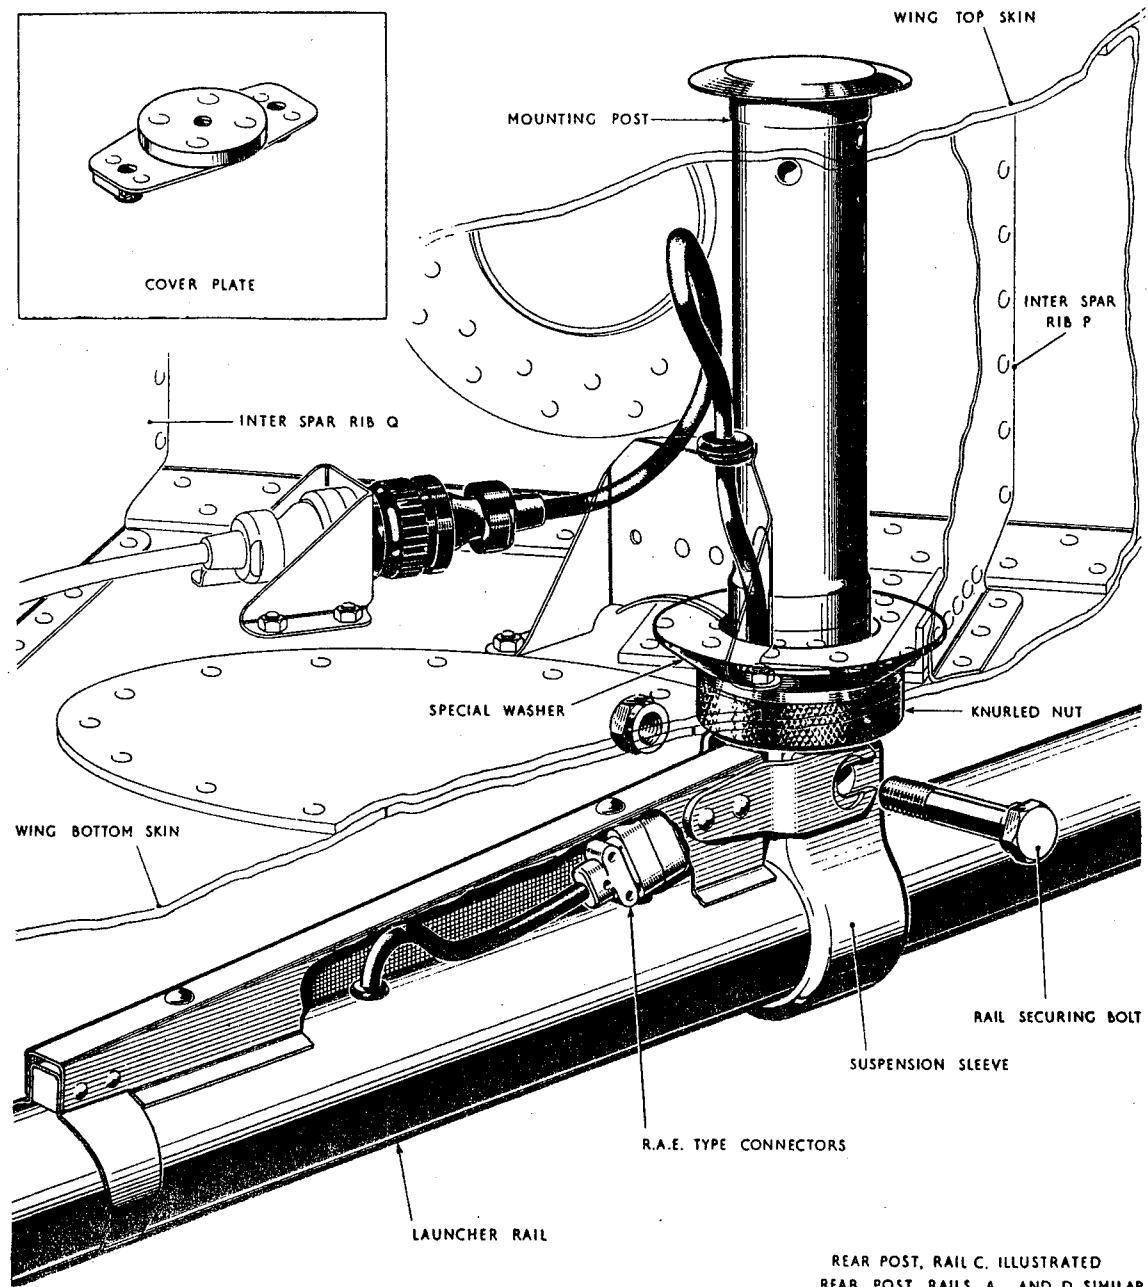

Fig. 1 Launcher rail attachment - post mounted
**Launcher rail mountings (fig. 1)**
(4) Tighten the bronze securing nuts by hand only.
(5) Fit the launcher rails to the eye-ends of the posts, using the special H.T. steel bolts provided.
(6) Make electrical connection by fitting the cable plugs into the sockets of the launcher (fig. 1) and fit the cable guards, which are secured by the rear post rail securing bolt.
(7) Lock the knurled nuts with 22 s.w.g. S.S. wire. In the case of the front post the wire is passed through the hole located between the threaded portion of the bolt and the eye-end. In the case of the rear post, the wire is passed through the hole in the end of the H.T. steel bolt that secures the rail to the eye-end, the wire also serving to lock the nut of this bolt. The nut of the rail securing bolt in the eye-end of the front post must be locked with a split pin.